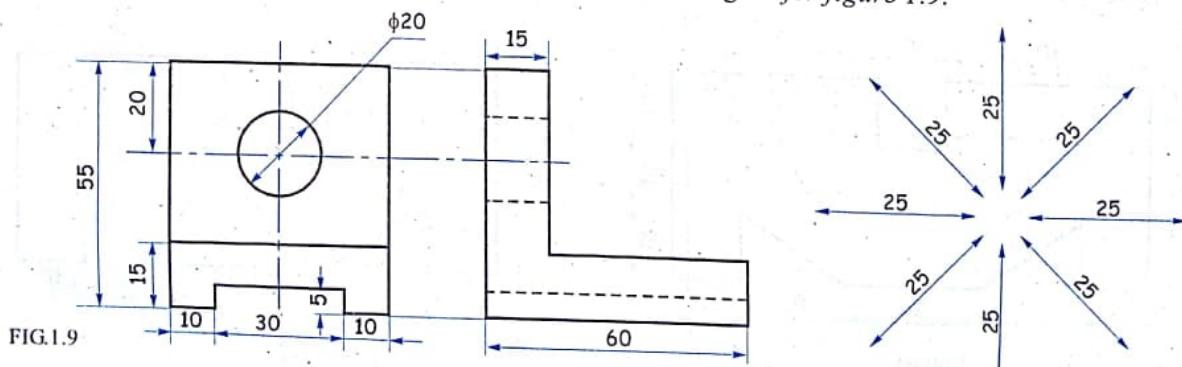

FIG.1.9
1. **Aligned System** : The figures are placed above the dimension line such that they are readable either from bottom or from right hand side of the drawing. Refer figure 1.9.